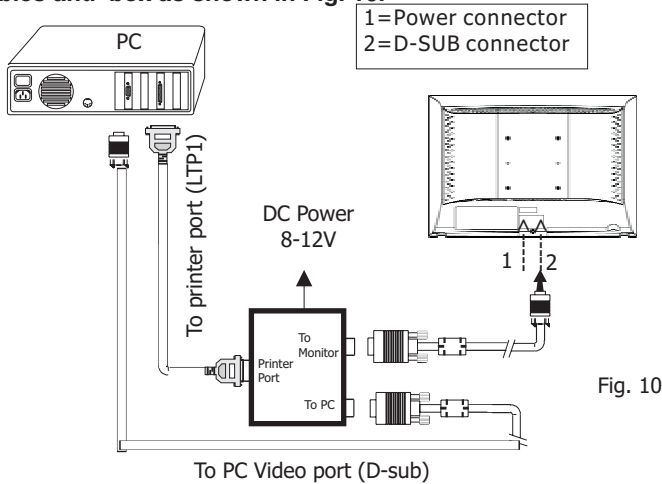

Fig. 10
Step 1: After initialize alignment box, connecting all cables and box as shown in Fig. 10.